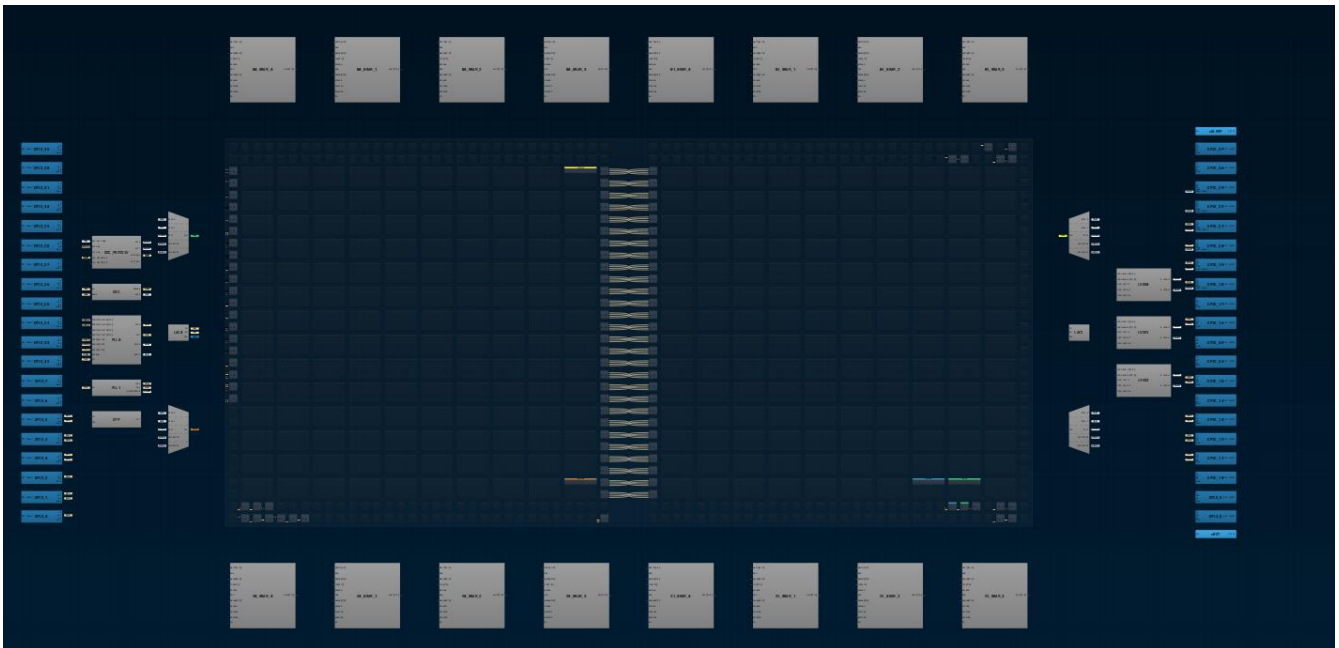

Figure 11. 2-tile Floorplan
9. Click on the Floorplan tab and see the CLB utilization (see Figure 11). Press the Ctrl and the mouse wheel to zoom-in. Confirm that the IOs selected in the IO Planner are shown in the floorplan.